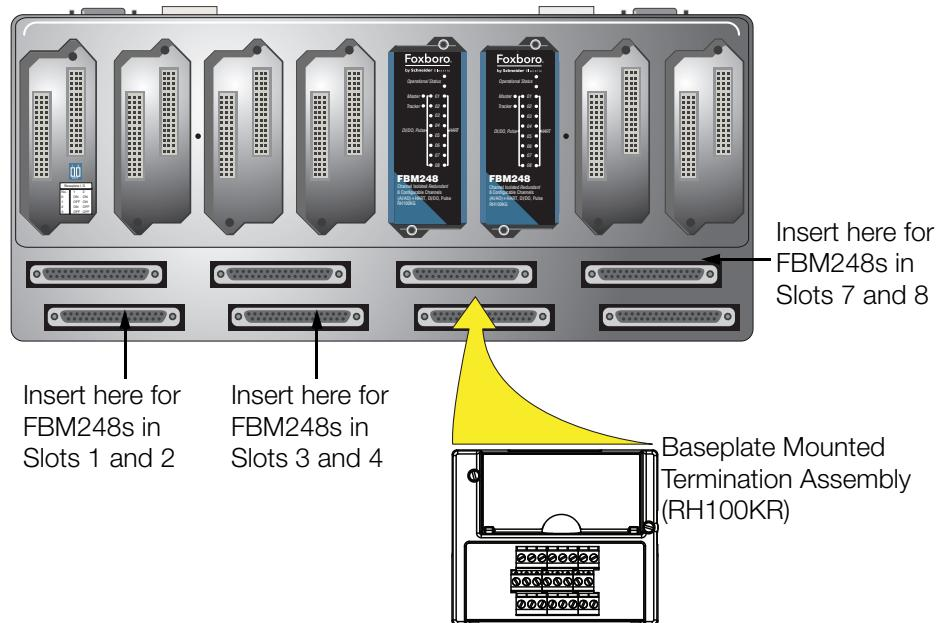

Figure 2. Baseplate-Mounted Termination Assembly (RH100KR) for FBM248 Pair
- ▶ Baseplate-mounted TA (RH100KR), which provides field I/O wiring support for redundant FBM248s in paired slots (that is, in positions 1 and 2, 3 and 4, 5 and 6, or 7 and 8), as shown in Figure 2. This TA mounts directly onto the field I/O connectors on the 200 Series baseplate.